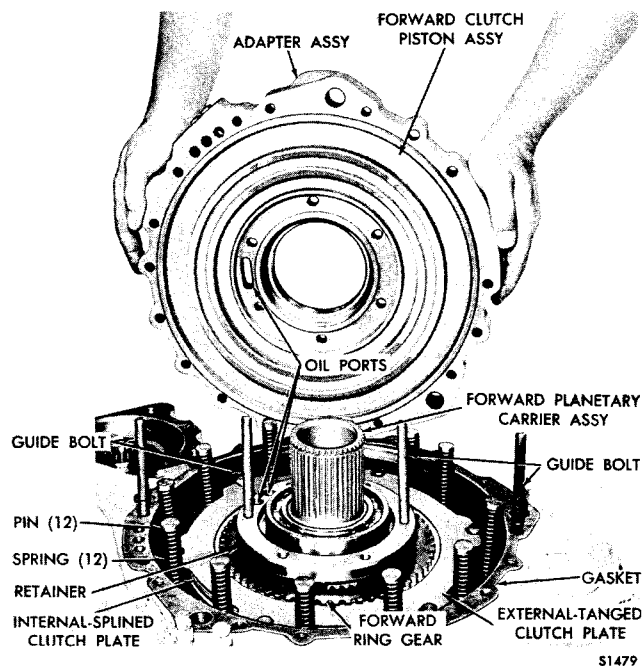

Fig. 7-20. Installing rear housing adapter assembly (-3 overdrive model)
(7) Next, install another internal-splined clutch plate and another external-tanged plate above the positioning ring on the forward ring gear (fig. 7-20).
(8) Install twelve clutch piston return springs and twelve pins (fig. 7-20).
(9) Install the adapter gasket onto the transmission housing (fig. 7-20). Install headless guide bolts at the four positions shown in figure 7-20.
(10) Install forward clutch piston, with sealrings, flat side first, into the rear housing adapter assembly (fig. 7-20).
(11) Install adapter assembly, aligning oil ports in the adapter and retainer (fig. 7-20).